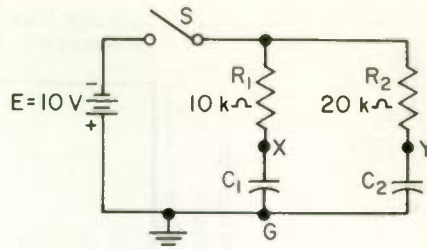

Fig. 5
1. Two identical capacitors C_1 and C_2 connected to a battery through different values of resistance are shown in Fig. 5. When switch S is closed, both capacitors will start to charge up through their respective resistors. Suppose that it takes 5 msec after S is closed for the voltage from point X to ground to reach 6 V. How long will it take for the voltage from point Y to ground to reach 6 V? _____ milliseconds.
2. Now suppose that both capacitors in Fig. 5 are initially uncharged. Switch S is then closed for exactly 5 msec and suddenly opened. Will there now be any current flow through R_1 and R_2 ? Why?